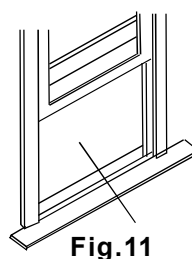

Fig.11
1. Open window and mark center of window inner sill as shown (Fig.11).